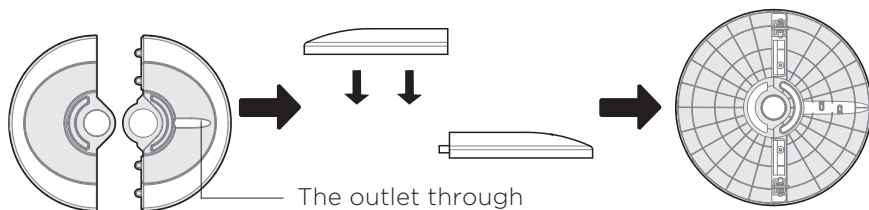

Fig.1
1. Take out the fan body and the spare parts from the box. Put the front base onto rear base and join them together. (See Fig. 1)